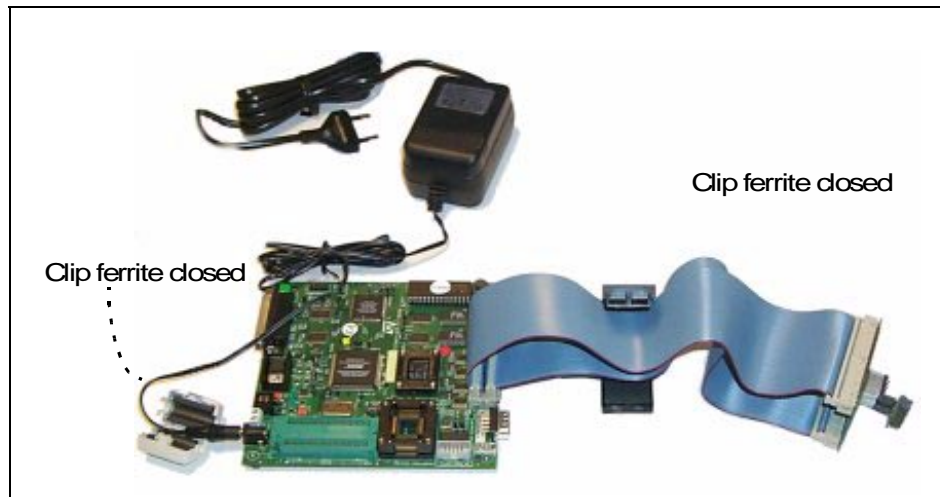

Figure 4: Connecting the ferrites
- 5 EMC-Compliant Probes (optional):** In order to work under an EMC-compliant environment, you will have to clip one EMC-ferrite on both 50-wire flat cables linking the application to the development kit board. Place this ferrite as close to the development kit board as possible. You also need to clip one EMC ferrite on the power supply wire coming from the power supply box. See Figure 4 on page 13.